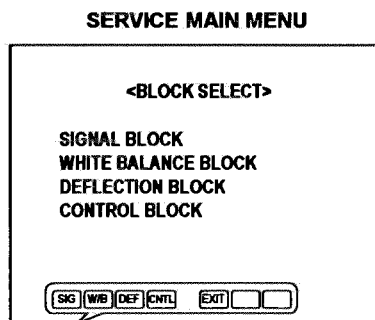

Fig.3
- ⑤ While "PLEASE DON'T TOUCH" is displayed, press + key or - key to display the SERVICE MAIN MENU as shown in Fig.3.